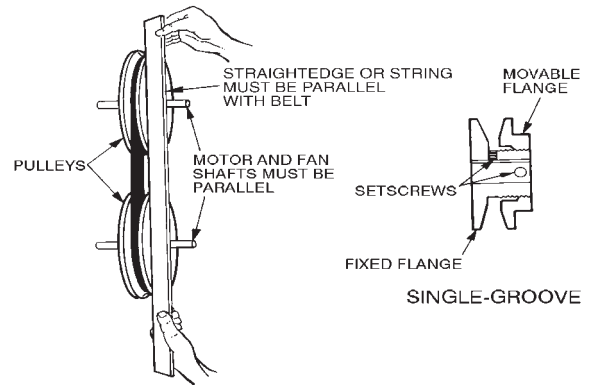

Fig. 48 – Evaporator-Fan Pulley Adjustment
3. Loosen movable pulley flange setscrew (See Fig. 48).